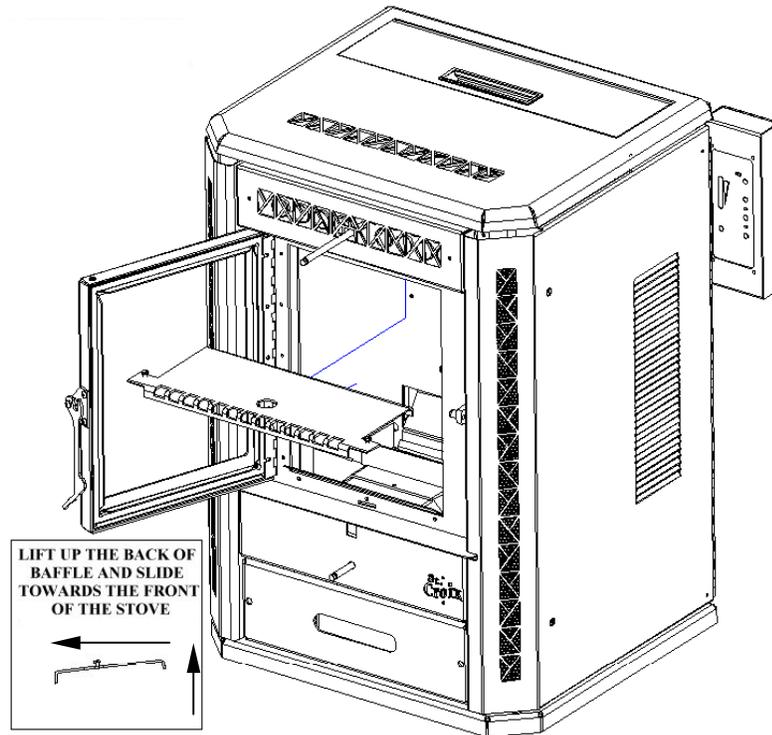

Figure 10
4. **Heat Exchange Baffle.** Remove the baffle and clean the ashes that accumulate on a regular basis. Once a month or sooner, depending on the quality of fuel being used (*See Figure 10 on Page 17*)
Figure 10 shows how the baffle is removed from the Stove. Clean the baffle on a regular basis. Frequency of cleaning depends on amount of fuel being burnt and the quality of the corn. **Failure to clean the Baffle can cause the stove to become plugged with Fly Ash.**